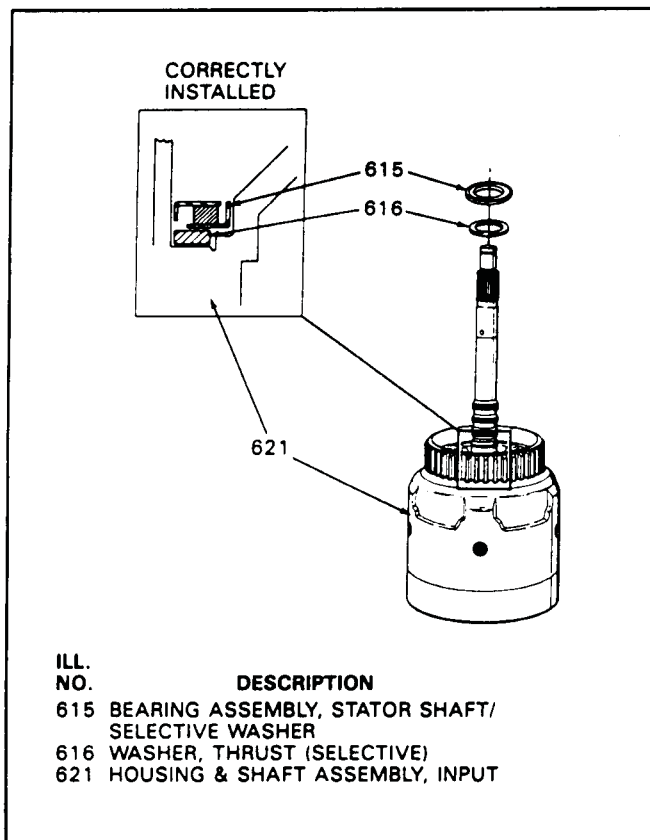

Figure 160
1. Install the selective thrust washer and thrust bearing assembly onto the input housing, as shown in Figure 160.